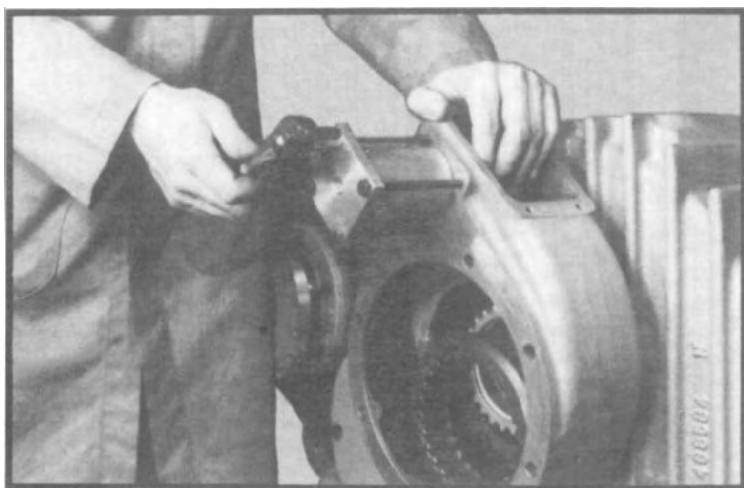

Fig. 182
13. Install cylinder cap on cylinder tube with four long capscrews, tightening to correct torque. Tighten capscrews evenly to prevent cocking the cylinder cap, (See fig. 182)